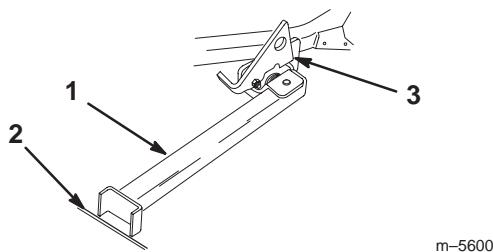

Figure 31
4. Set foot of stand on the ground and rest latch on pivot tab (Fig. 31).
Note: For best results, place foot of stand into seams in sidewalks or into turf (Fig. 31).
6. Drive onto stand. Stop when latch drops over tab into locked position (Fig. 31). Once onto stand, engage parking brake. Shut off engine.